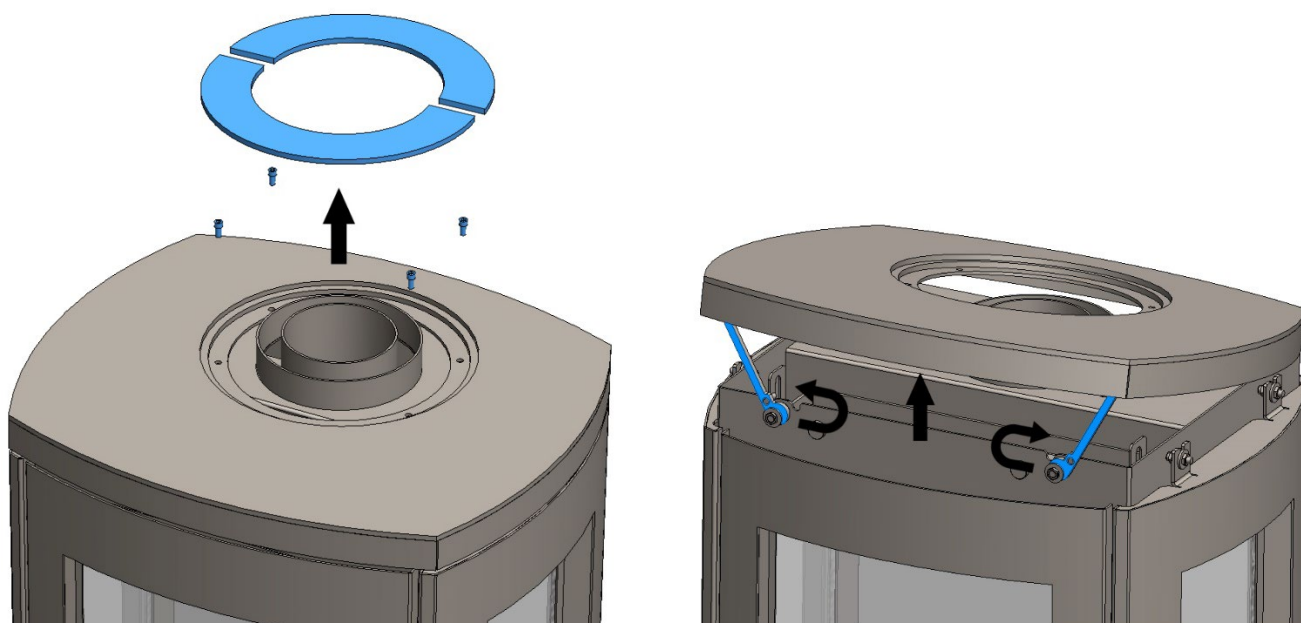

Fig.20 Top Access
STEP 1 – Raise the appliance top by removing the two pieces of spigot trim then unscrewing the 4 screws below. Then lift the front edge of the appliance top and rotate both support arms into a vertical position. Allow the appliance top to rest on the support arms (see Fig.20)